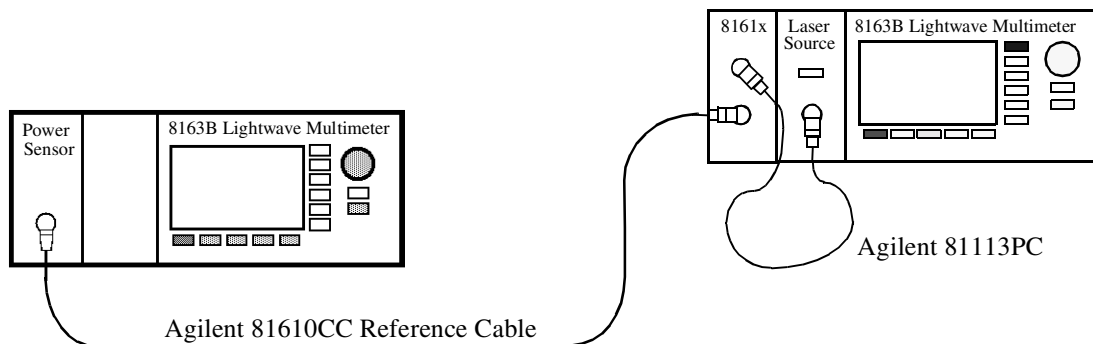

Figure 97 Power Transmitted through the Reference Cable - External Source
- 1 Making sure all the connectors are clean, set up the instrument as shown in Figure 97 if you are using an External Source.